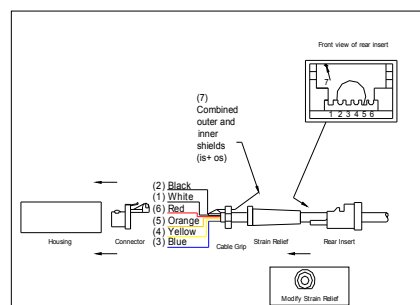

Fig 2.1
1. Cut a flat side on the strain relief as shown in fig 2.1.
7. Clamp cable grip over shields and 2mm from the end of the cable outer jacket (see fig 2.1).